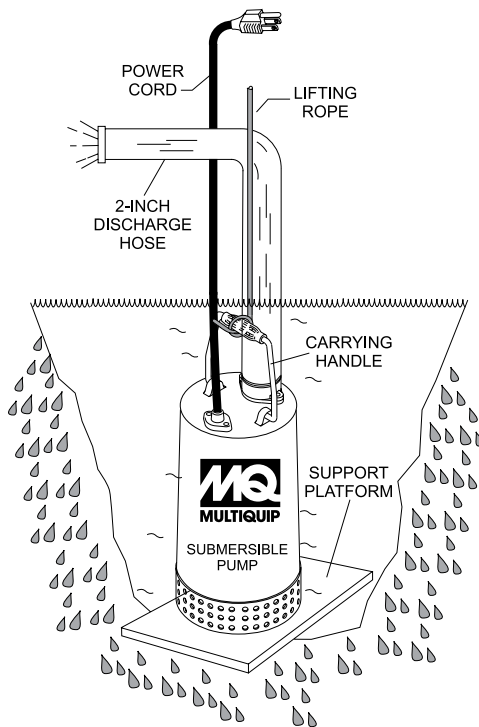

Figure 8. Submersible Pump Upright Position (Correct)
1. Connect a 2-inch hose to the discharge port on the pump as shown in Figure 8. Make sure that the hose is attached correctly to the discharge port.
1. Attach a suitable lifting cable (rope) to the carrying handle (Figure 8) on the pump and lower the pump into place. For applications where there is an excessive amount of mud, grit or silt, the use of a support platform is desirable. When pumping water from applications where there is little or no debris, the support platform is not required.